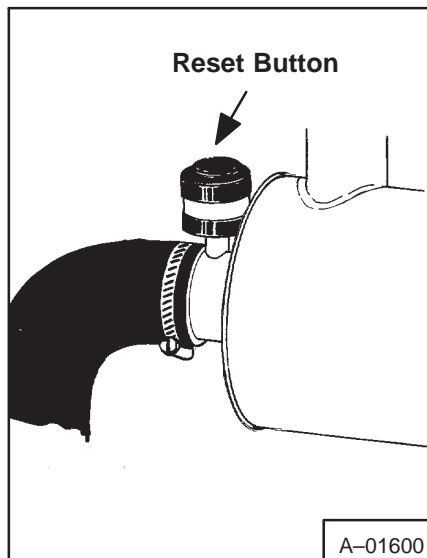

Fig. 1-8 Condition Indicator
5. Set indicator ring back to normal (Fig. 1-8).